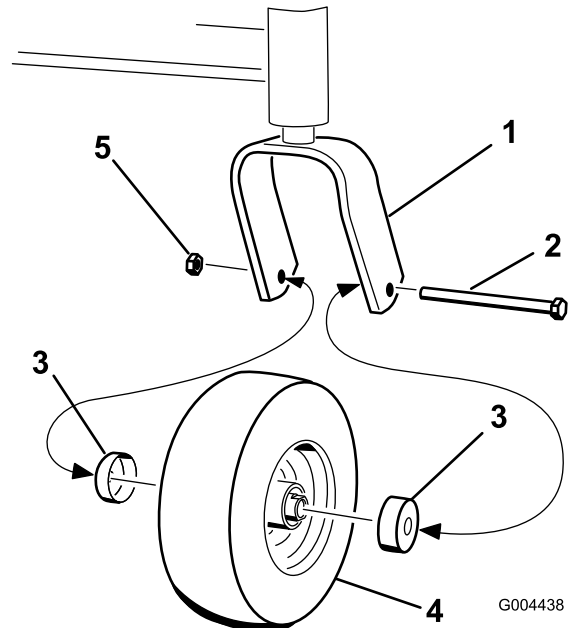

Figure 26
4. Remove then nut and bolt holding the caster wheel to the front caster fork (Figure 26).
5. Remove the seal guard from the wheel hub (Figure 26).
17. Install the seal guards over the wheel hubs and insert the wheel into the caster fork (Figure 26).
18. Install the caster bolt and tighten the nut (Figure 26).